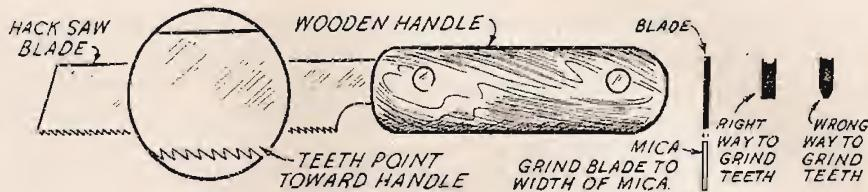
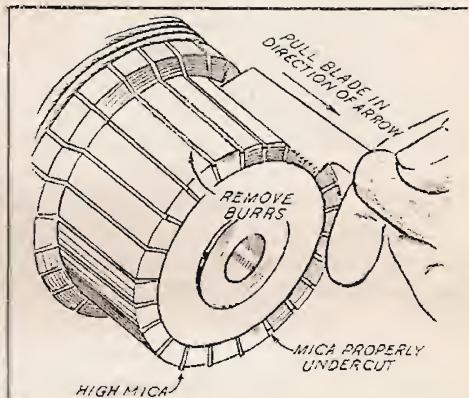

Fig. 28 Mica Undercutting Tool
Fig. 29 Undercutting Mica
**COMMUTATOR AND COLLECTOR RINGS.** - The mica insulation between the commutator bars, or segments, was originally undercut to a depth of  $1/32$  inch below the commutator surface. After a long period of service, the surface of the commutator may become worn down level with the mica. This condition would cause noisy brushes, sparking of the brushes, and pitting of the commutator. The mica should again be undercut to  $1/32$  inch depth. Remove the brush springs and pull all the brushes out of their guides. After tagging any leads disconnected (to assure correct reconnection) remove the end bell. With a mica undercutting tool, or an improvised tool fashioned from a hack saw blade (Fig. 28), carefully cut the mica between all of the commutator bars down to the  $1/32$  inch depth. Use care to avoid scratching the surface. Remove any burrs which may be formed along the edges of the bars, and clean all spaces between bars completely free of any metallic particles, Fig. 29.